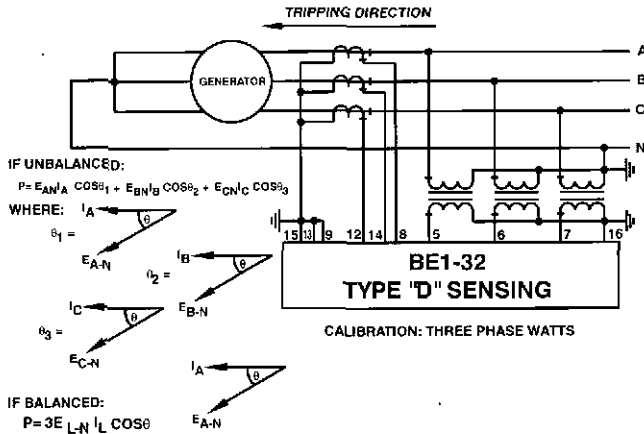

Figure 10 - Three Phase, Type D Sensing
**Type D Sensing:** Three-Phase (Figure 10). The type D sensing configuration monitors three line-to-neutral voltages and three phase currents of a three-phase, four-wire circuit and calculates the power flowing in the tripping direction. Relays with this sensing type are calibrated in three-phase watts.